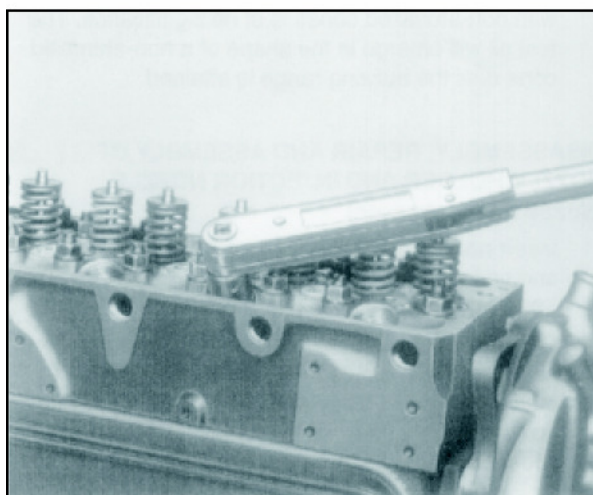

Fig. 19
2. Screw in protective sleeve into cylinder head with adapter, 000 589 0309 and tighten to specified torque. Fig. 19.